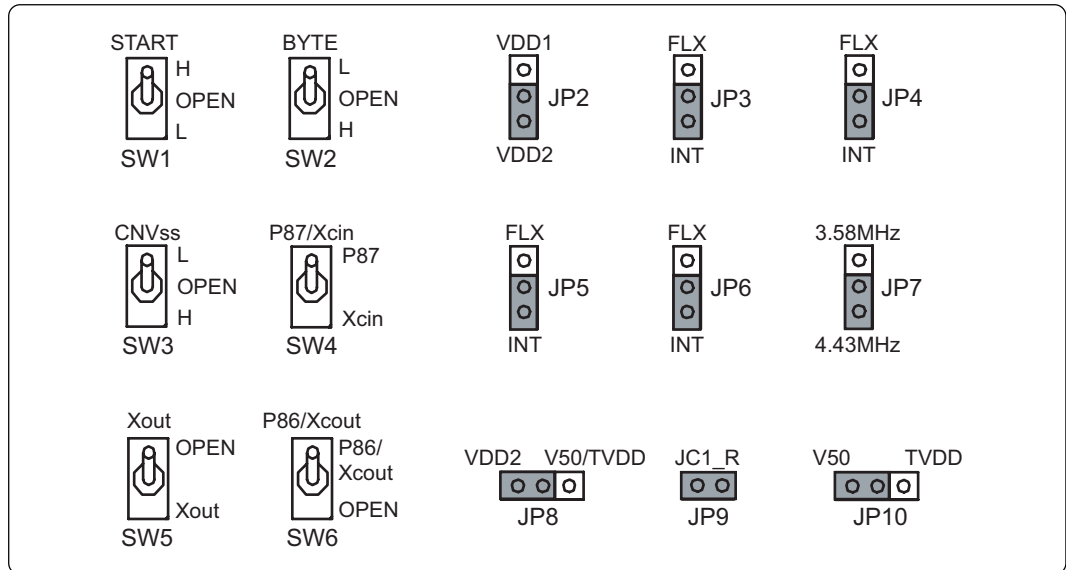

Figure 4.3 Switch settings for the self-check (factory-settings)
- (1) Set the switches in the emulation pod to the factory settings as shown in Figure 4.3.
- (2) If the user system is connected, disconnect it.
- (3) Within 2 seconds of activating power to the emulator, press the system reset switch on the emulator front panel to switch the emulator to maintenance mode.
- (4) Check the SAFE LED starts blinking and then press the system reset switch again.
- (5) The self-check will start. If the normal result is displayed in about 40 seconds, the self-check has terminated normally.
- Whether the switch settings of this product are the factory-settings (Figure 4.3)